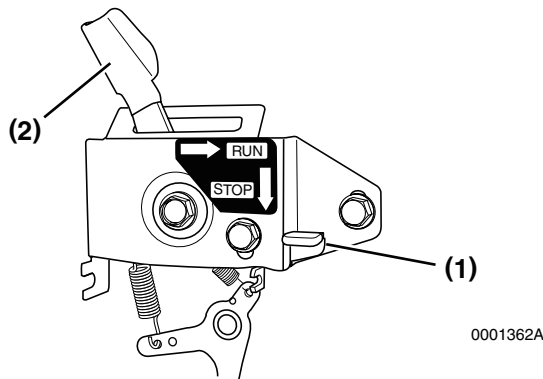

Figure 18
2. If your engine speed control is similar to **Figure 18** press the STOP button (**Figure 18, (1)**) and the engine speed control lever (**Figure 18, (2)**) will automatically return to the STOP position.